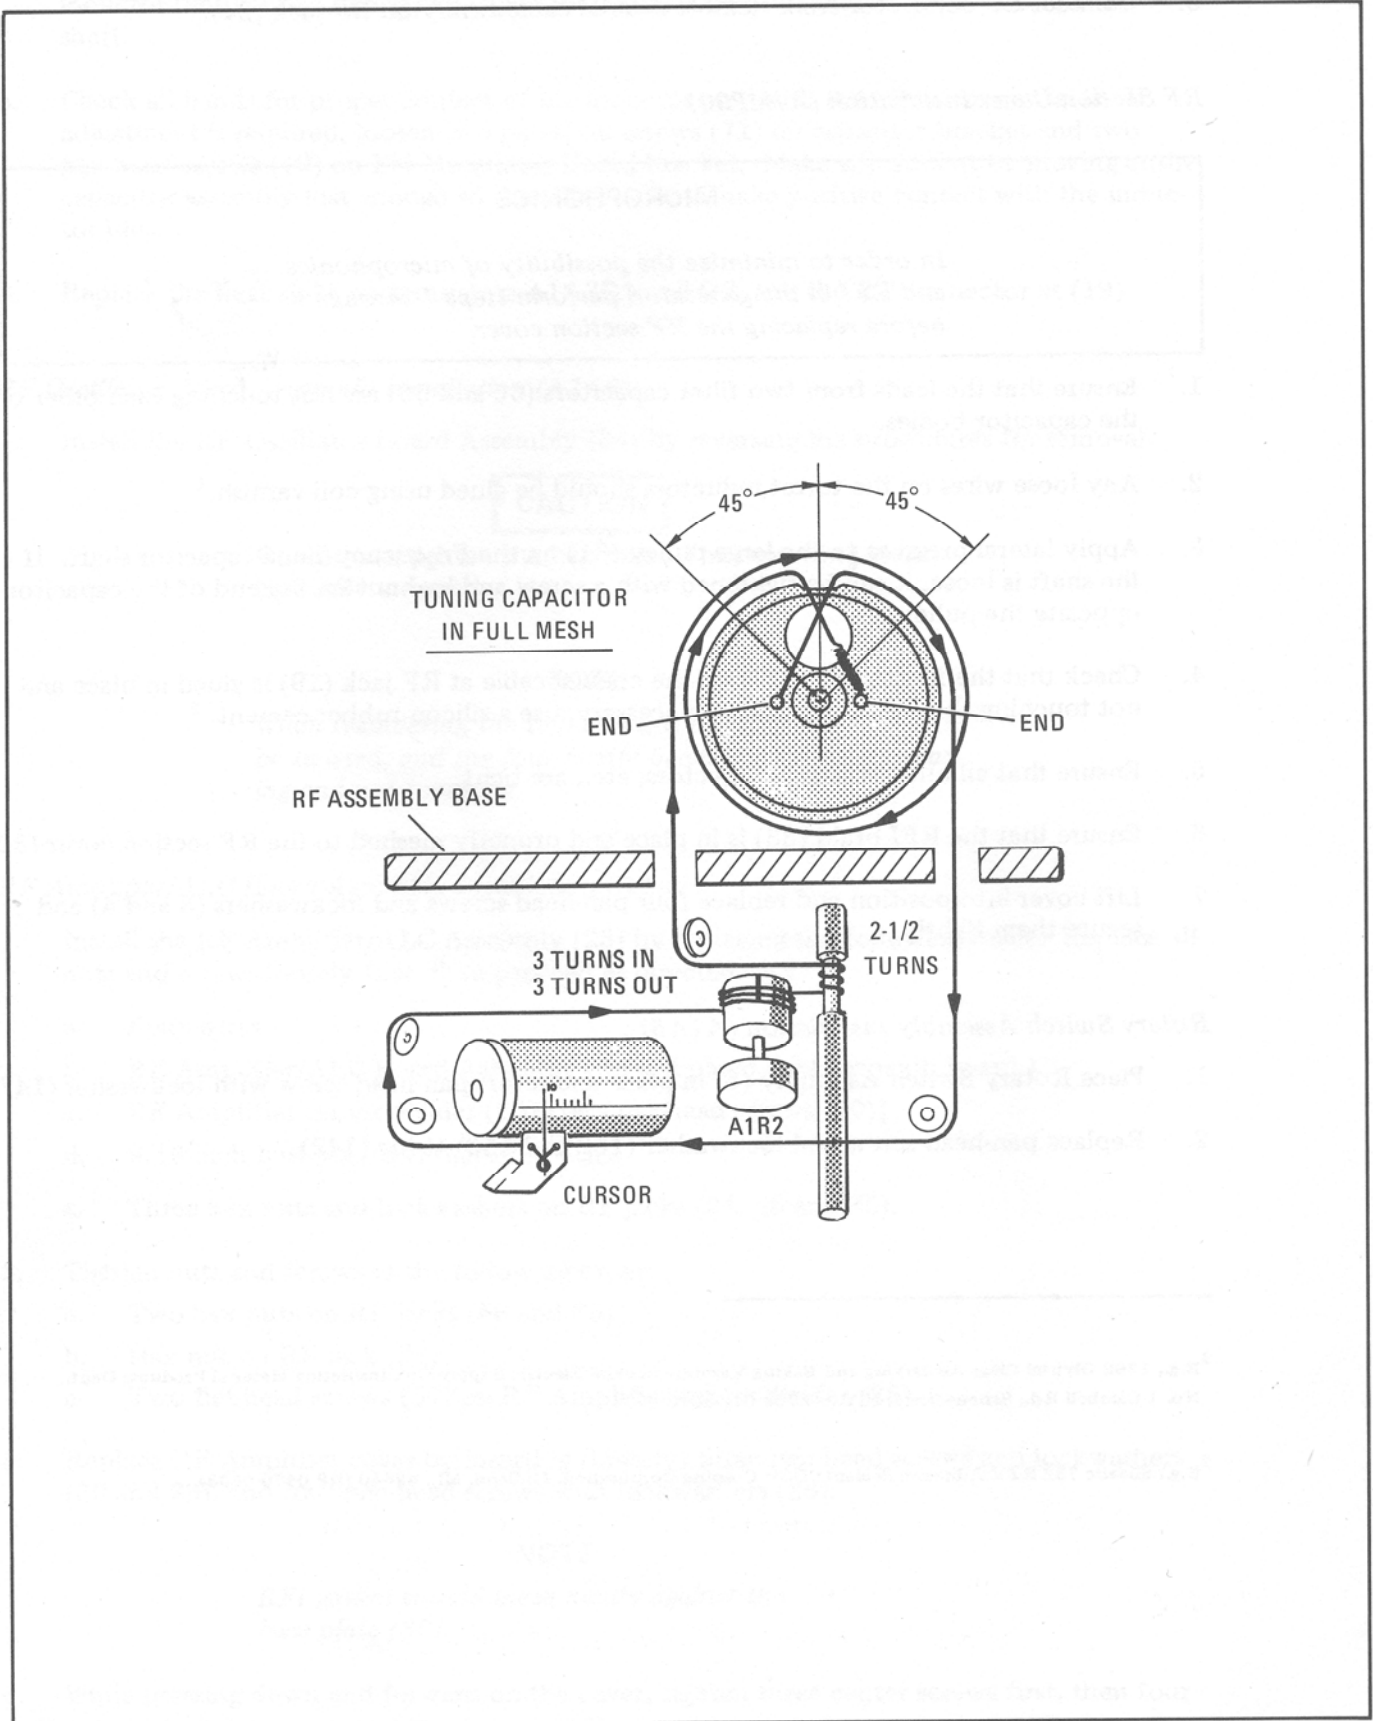

Figure 8-1. Dial Stringing Diagram
- d. Two pan-head screws with lockwashers (40), and four flat washers (41)
- e. Two hex nuts and lockwashers [same as (36) and (37)]
1. To remove the Frequency Tune capacitor (47), the following items must be removed.
- b. RF section cover (32)
- c. RF Oscillator Board Assembly (34)
- d. Turret Assembly (8)
- e. FM Modulator Board Assembly (49)
2. The tuning capacitor pulley must be removed. If care is taken and the following steps followed, it should not be necessary to restring the pulley (see Figure 8-1) if restringing is necessary.
- a. Disconnect spring (58) and tape it to pulley
3. Remove two pan-head screws (48) and locknuts (60) at the capacitor mounting bracket (59).